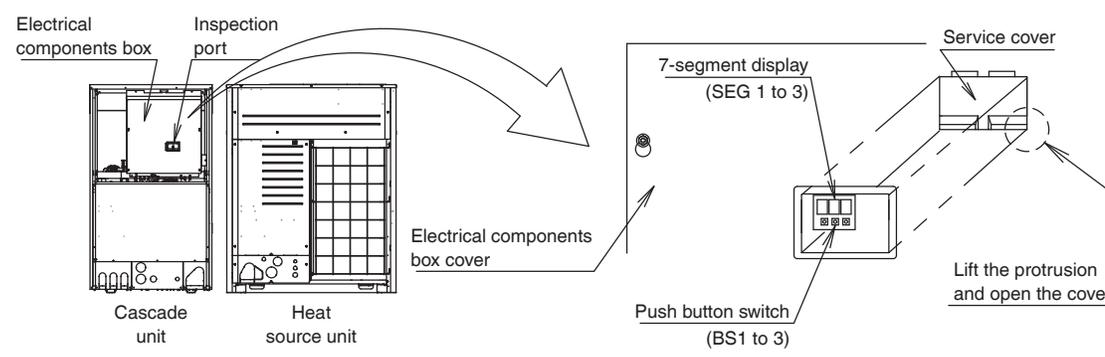

Fig. 34
- Checking the (A1P) settings/7-segment display on the P board of the cascade unit after the power supply is turned on is carried out from the inspection port in the cascade unit electrical components box cover (refer to Fig. 34).